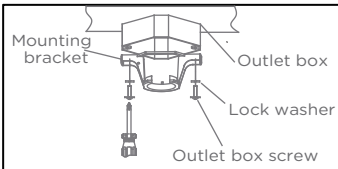

Fig. 6
- Securely attach the mounting bracket to an outlet box marked “Acceptable for Fan Support” using the outlet box screws and lock washers supplied with the outlet box (Fig. 6).